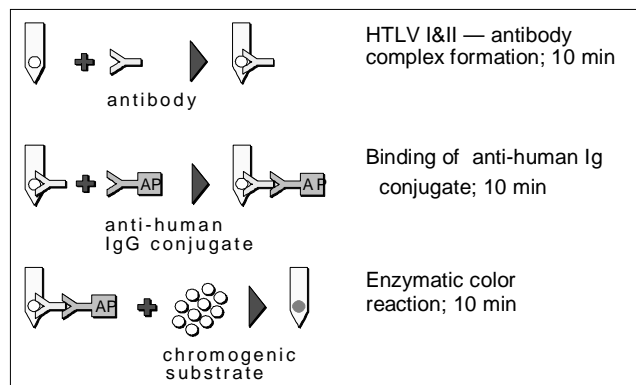

Figure 1. Principle of the Test
To start the test, serum or plasma specimens are added to the diluent in the wells of row A of the Developing Plate. The Card is then inserted in the wells of row A. Anti-HTLV antibodies, if present in the specimens, will specifically bind to the recombinant proteins on the lower spots on the teeth of the Card (Figure 1). Simultaneously, immunoglobulins present in the specimens will be captured by the human immunoglobulin antibodies on the upper spot (Internal Control). Unbound components are washed away in row B. In row C, the specific immunoglobulins captured on the teeth will react with anti-human IgG antibodies labeled with alkaline phosphatase (AP). In the next two rows, unbound components are removed by washing. In row F, the bound alkaline phosphatase will react with chromogenic components. The results are visible as gray-blue spots on the surface of the teeth of the Card.